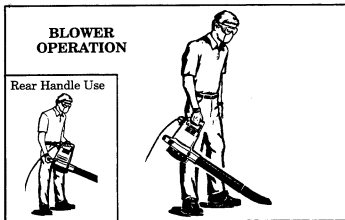

Figure 11
12. **Use the correct operating position.** Figures 11 & 12. Do not overreach or use from unstable surfaces such as ladders, trees, steep slopes, roof tops, etc. Keep firm footing and balance at all times.